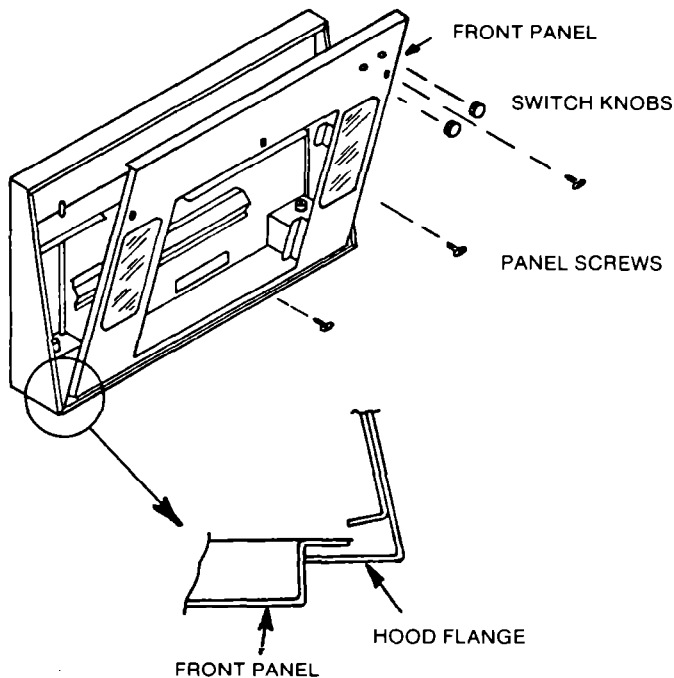

Figure 10
3. Replace front panel. (Figure 10)